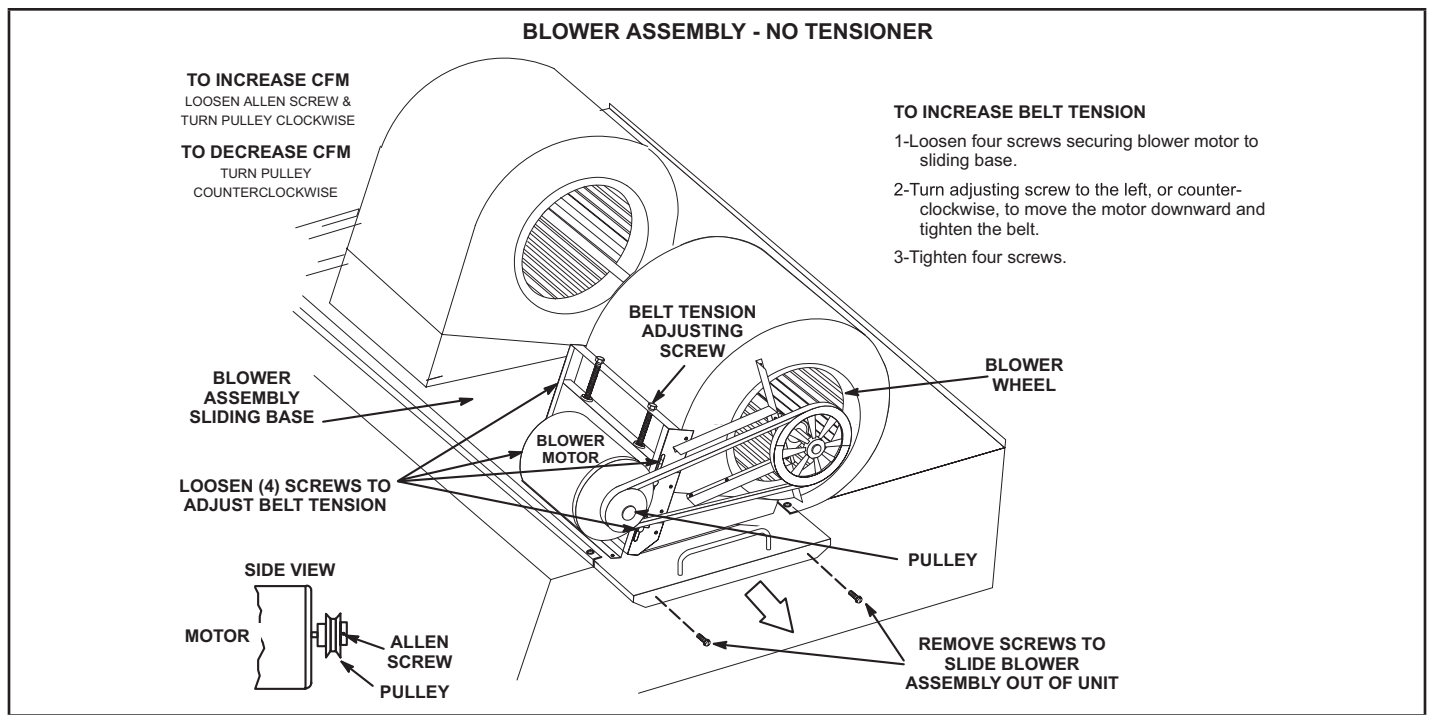

FIGURE 17
The blower compartment is located between the evaporator coil and the compressor / control section on the opposite side of the condenser coil. The blower assembly is accessed by disconnecting the blower motor wiring (and all other plugs) and removing the screws on either side of the sliding base. The base pulls out as shown in FIGURE 17.
- 2 - Remove screws on either side of blower assembly sliding base. See FIGURE 17.
- 4 - The blower RPM can be adjusted at the motor pulley. Loosen Allen screw and turn adjustable pulley clockwise to increase CFM. Turn counterclockwise to decrease CFM. See FIGURE 17. Do not exceed minimum and maximum number of pulley turns as in TABLE 8.
- 1 - Loosen four screws securing blower motor to sliding base. See FIGURE 17.